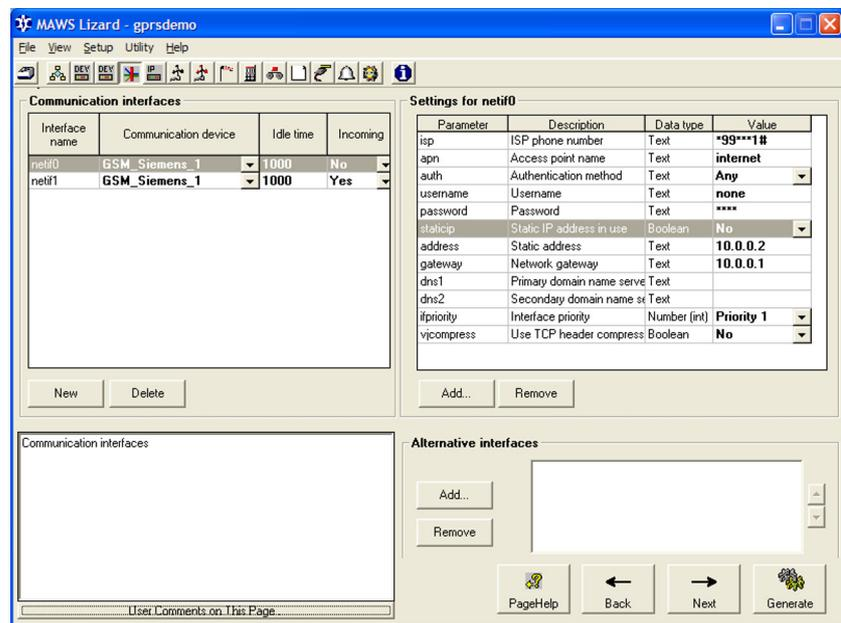

Figure 143 Configuring Network Interface for GSM/GPRS Modem
2. In the **Communication interfaces** view, add and configure a communication interface for the modem as shown in Figure 143 on page 303.